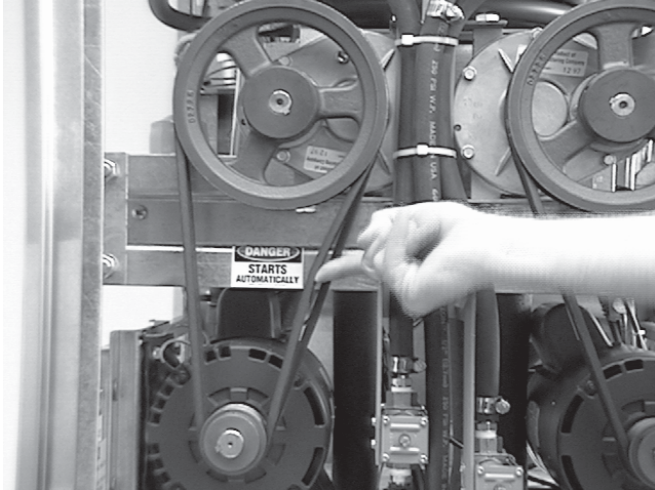

Figure 31. Belt Adjustment
- B. Press firmly on one belt. Figure 31.